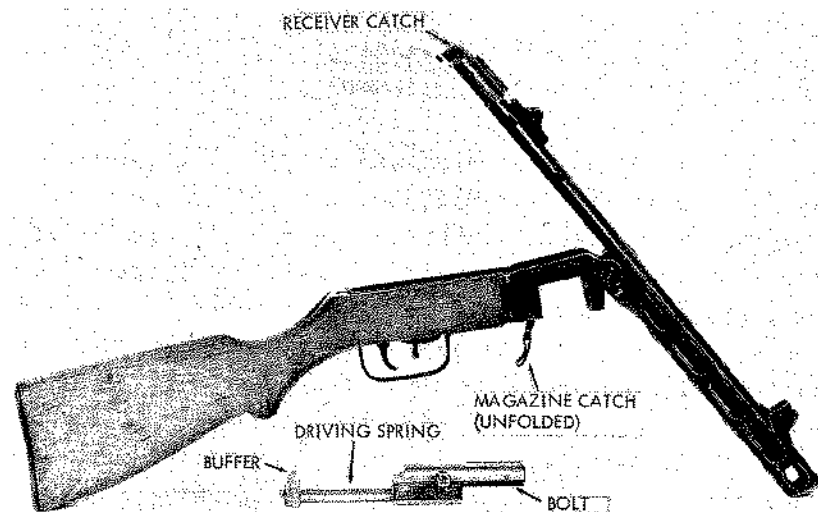

Figure 35. PPSH-41 field stripped.
d. Remove the magazine by unfolding the magazine catch (fig 35) and pressing it forward, toward the magazine; simultaneously pull the magazine straight down and out of the magazine opening.
(1) Clear the gun (para .57e), but do not insert the magazine.
(2) Press in on the receiver catch at the rear of the receiver and swing the barrel down (fig 35).
(3) Grasp the operating handle, pull it rearward and upward, and rotate the bolt, driving spring assembly, and buffer